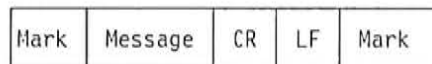

Figure 13-3. Frame Structure of Commands and Responses (ASYNC)
V.25 Bis commands and responses are carried in the message field of the Asynchronous frame. The format of this frame is as shown in Figure 13-3.